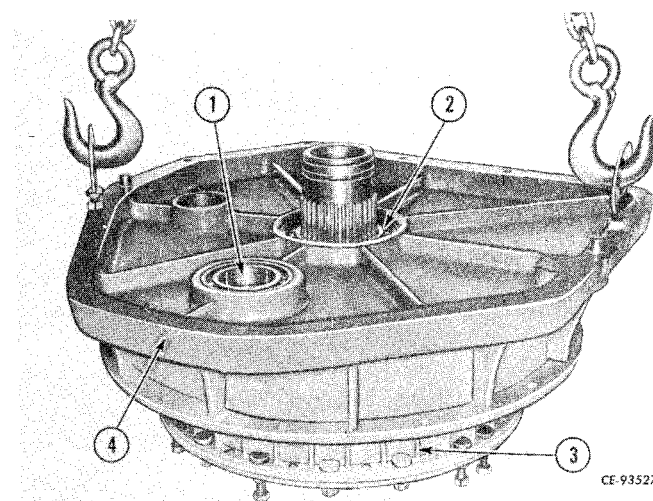

Figure 3-34
Install large spur gear bearing (1, Fig. 3-34) and impeller hub bearing (2) in rear housing (4).